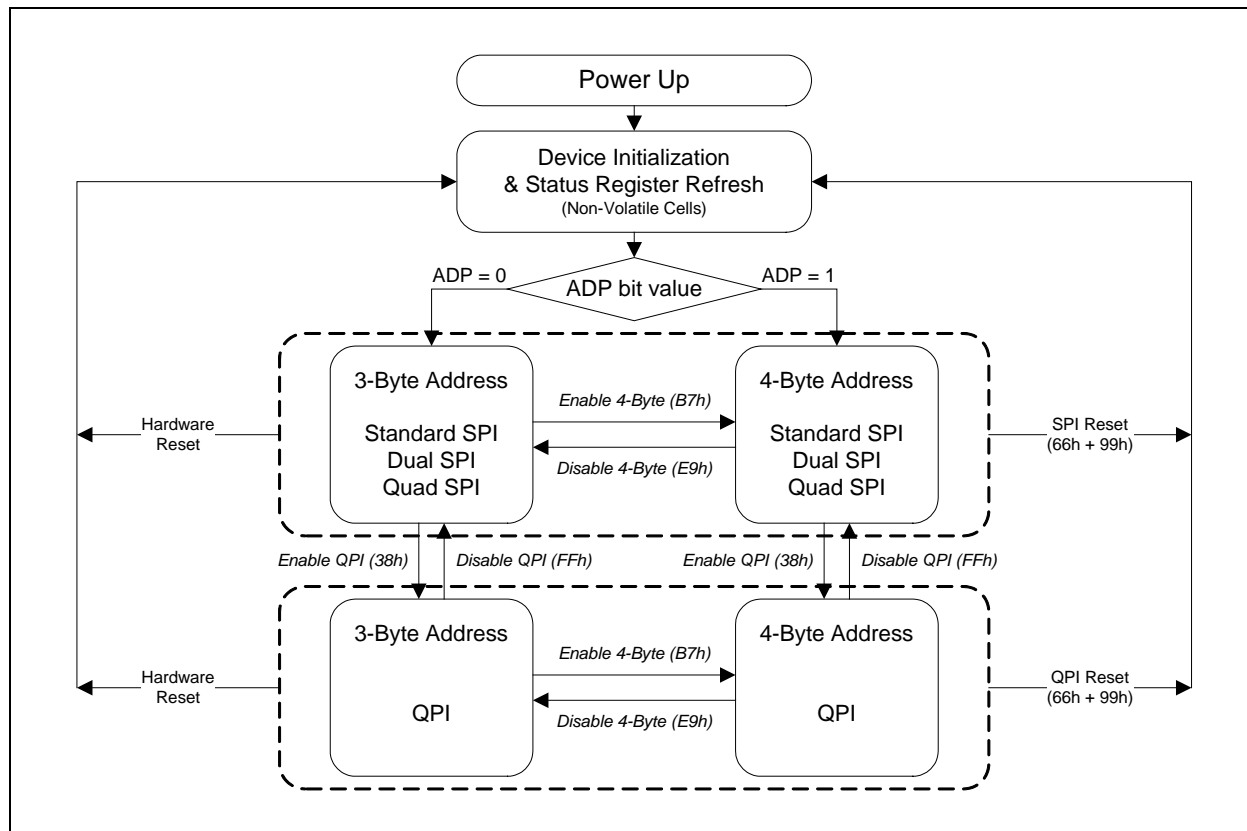

Figure 3. W25Q256FV Serial Flash Memory Operation Diagram
The W25Q256FV supports Quad Peripheral Interface (QPI) operations only when the device is switched from Standard/Dual/Quad SPI mode to QPI mode using the “Enter QPI (38h)” instruction. The typical SPI protocol requires that the byte-long instruction code being shifted into the device only via DI pin in eight serial clocks. The QPI mode utilizes all four IO pins to input the instruction code, thus only two serial clocks are required. This can significantly reduce the SPI instruction overhead and improve system performance in an XIP environment. Standard/Dual/Quad SPI mode and QPI mode are exclusive. Only one mode can be active at any given time. “Enter QPI (38h)” and “Exit QPI (FFh)” instructions are used to switch between these two modes. Upon power-up or after a software reset using “Reset (99h)” instruction, the default state of the device is Standard/Dual/Quad SPI mode. To enable QPI mode, the non-volatile Quad Enable bit (QE) in Status Register-2 is required to be set. When using QPI instructions, the DI and DO pins become bidirectional IO0 and IO1, and the /WP and /HOLD pins become IO2 and IO3 respectively. See Figure 3 for the device operation modes.